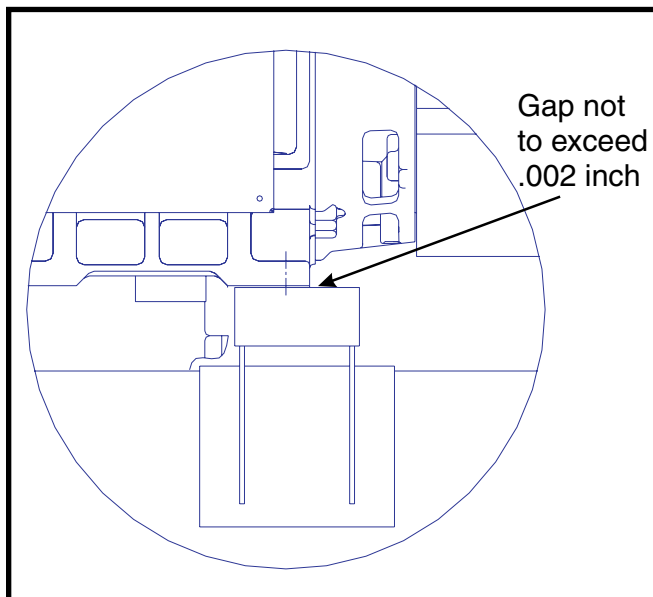

Figure 17. Shim motor feet to less than .002 inch gap
8. While the assembly is still supported, measure the clearance between the motor feet and base plate with a feeler gage. Shim the motor feet to gage reading plus .002" gap between each motor foot and the support base. Then, bolt the motor to the mounting base and torque the motor mounting bolts to 250 ft-lb. Reference Figure 17.